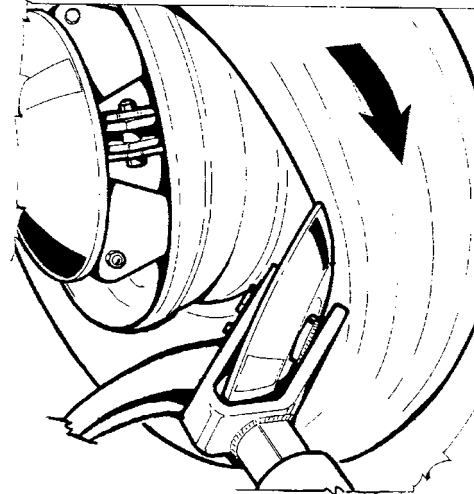

Fig.31
5. Demount the inner bead with the bead breaker disc, as described in #5.2.7. (fig.31).